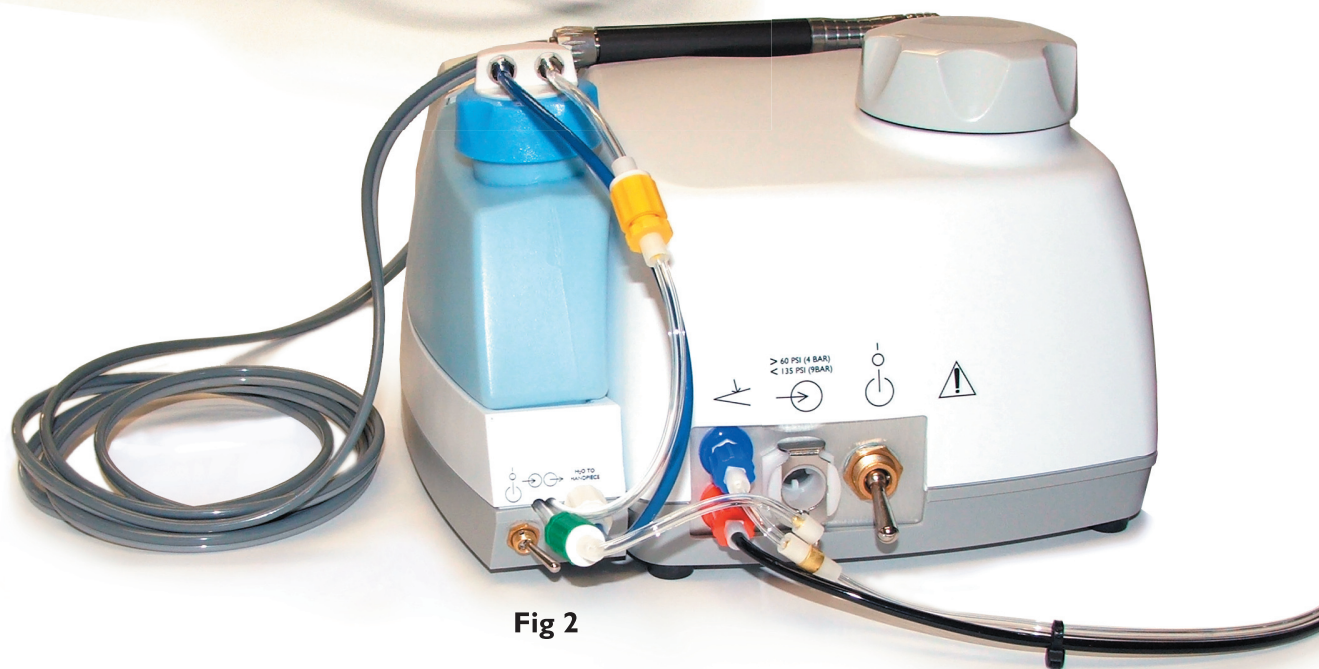

Fig 2
2. Attach the foot pedal supplied with the unit to the rear of the unit, the connectors are colored coded, the red and blue go to the back of the PrepStart while the green attaches to the back of the water unit (see Fig 2), hand tighten all connections until firmly secured to avoid leaks.
5. Attach the blue line with white fitting to the white fitting in the base of the water unit and the two (2) yellow fittings together, hand tighten (See Fig 2).